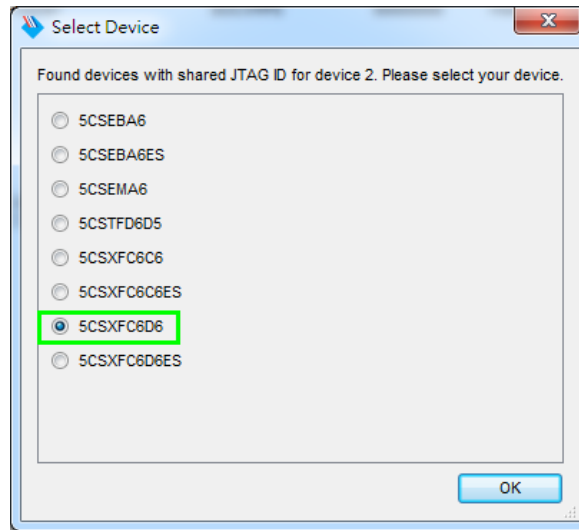

Figure 3-4 Select 5CSXFC6D6 device
2. Select detected device associated with the board, as circled in Figure 3-4.